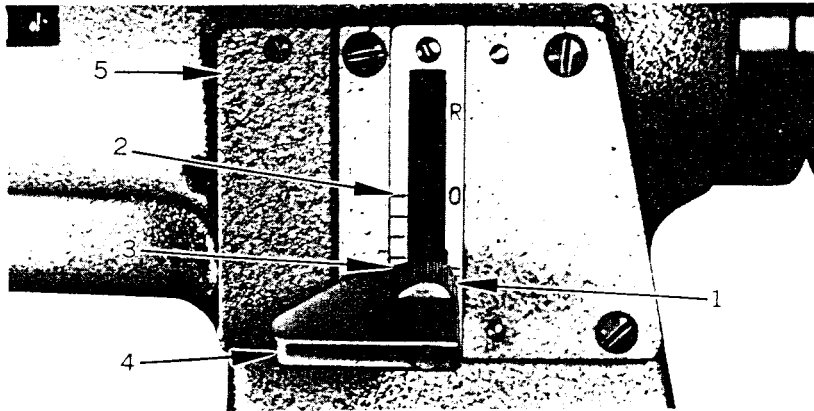
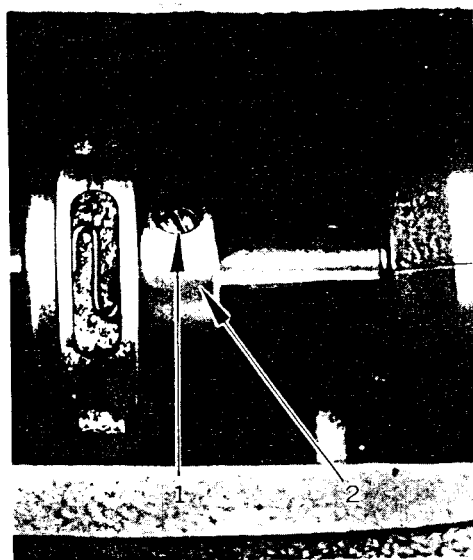

Fig. 11
Fig. 21 LSC-8BV
ADJUSTING THE STITCH LENGTH (Fig. 11)
2. Remove the cover (5, Fig. 11)
2. Loosen the screws (1, Fig. 21) and move the cam (2, Fig. 21)
2. Pushing the stitch length regulating lever (4, Fig. 11) up and down, turn the cam (2, Fig. 21) and set at the point both the needle and the feeder rest.